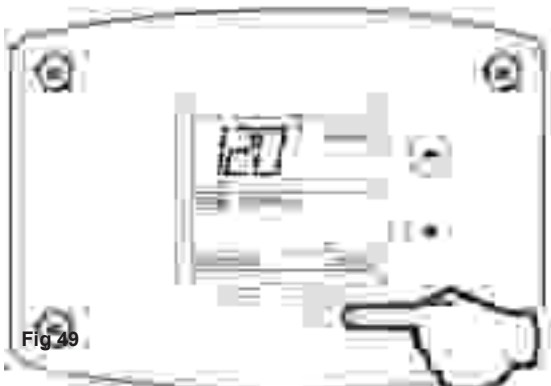

Fig 49
4. Press 'Set' button to confirm new 'Max Setpoint' value and stop setting mode (Fig. 49).